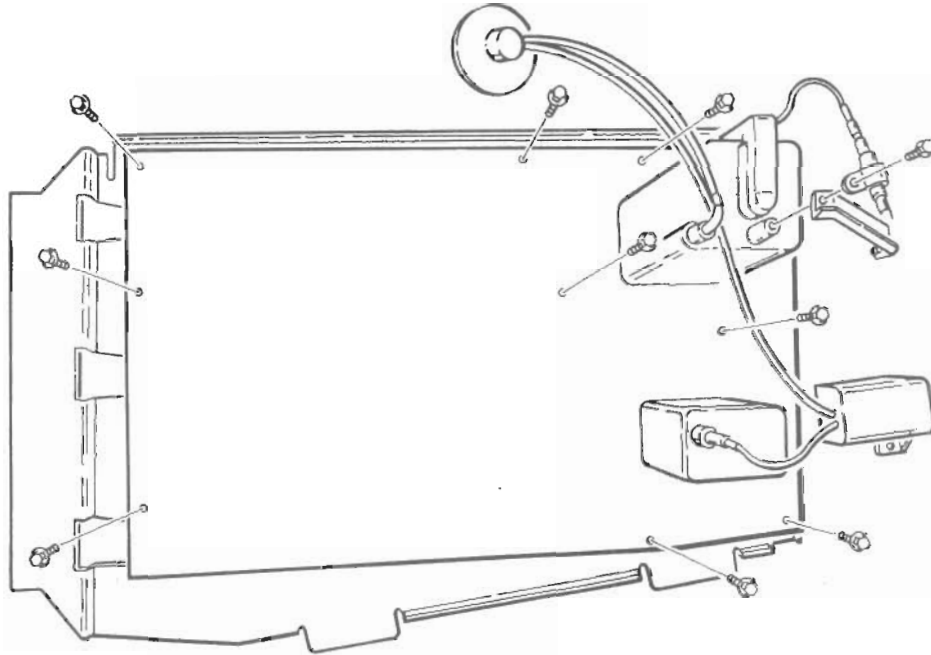

Figure 3-10. Deflection Board Removal
2. Refer to Figure 3-10 and remove the nine hex screws that secure the deflection board to the side panel. Lift the board away from the panel and replace the screws.